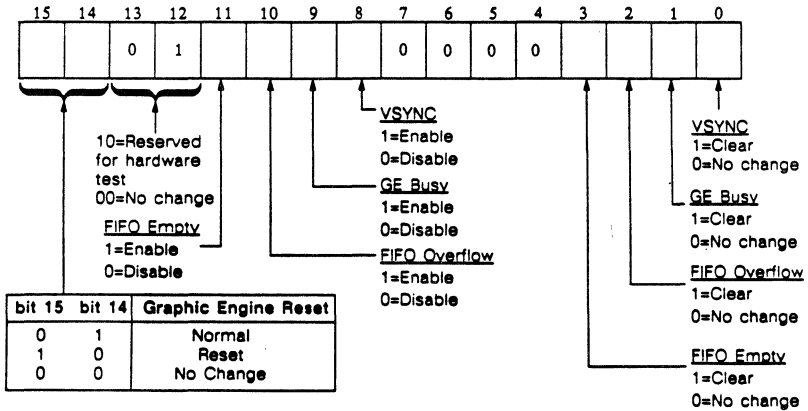

Figure 11. Interrupt Control Register (42E8h Write Only)
The Interrupt Control (IC) Register at address 42E8h is used for interrupt and reset control of the PWGA-1 FIFO and other CPU interface functions (see Figure 11). This register is write only and affects Bits 3-0 of the Interrupt Status (IS) Register (see "Interrupt Status Register"). The IS Register is a read only register also at address 42E8h.
**Graphic Engine (GE) Busy** Bit 1 puts a 0 in the GE busy status bit of the IS Register that can be read at address 42E8h.